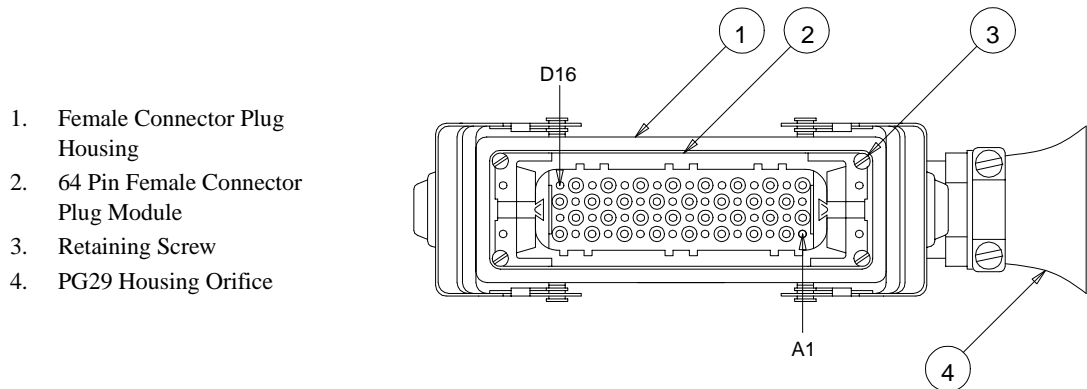

Figure 2.9: 64 Pin Quick Disconnect Plug Layout
2. Referencing Figure 2.9: 64 Pin Quick Disconnect Plug Layout remove the 64 pin female connector plug module from the female connector plug housing.
The orientation of the female connector plug housing can be changed to suit the customer's needs. Refer to Figure 2.9: 64 Pin Quick Disconnect Plug Layout for the location of various connector components.